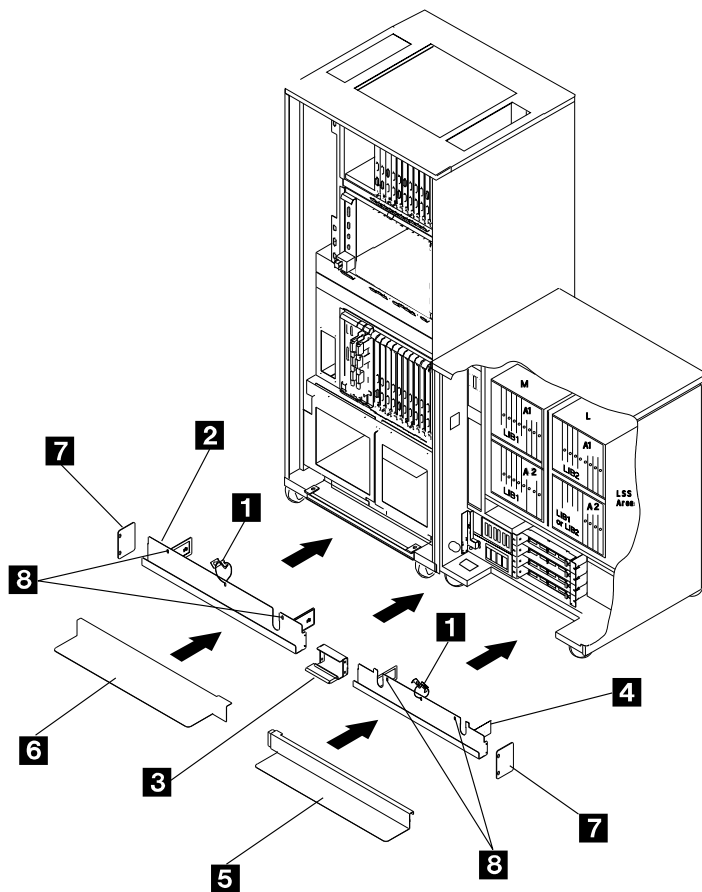

Figure 10-1. 3746-900 and 3745 17A Ground Brackets (Rear View)
All the following procedures can be used to install the ground plates when the 3746-900 is installed on the other side of the 3745 (refer to Figure 10-1 on page 10-3).
- Step 1. ____ Remove brackets **1** from the ground plates **2** and **4** (PN 58G5307 and PN 58G5306). Refer to Figure 10-1 on page 10-3.